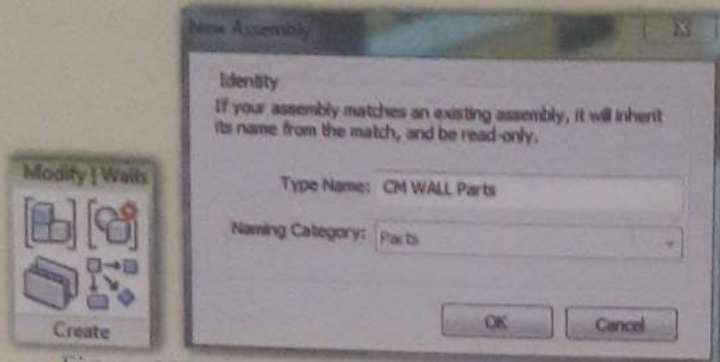

Figure 106: Create Parts
3. The wall divides in to different parts since it is a compound wall (Figure 106).